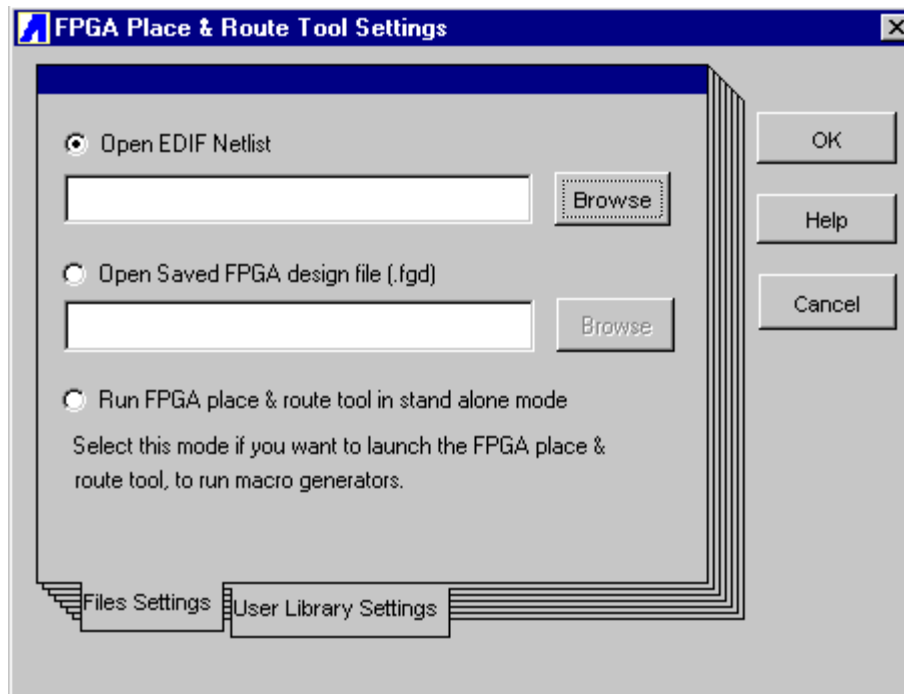

Figure 16 FPGA Place and Route Tool Settings
1. Press the Figaro IDS button, a dialog appears, see **Figure 16**.